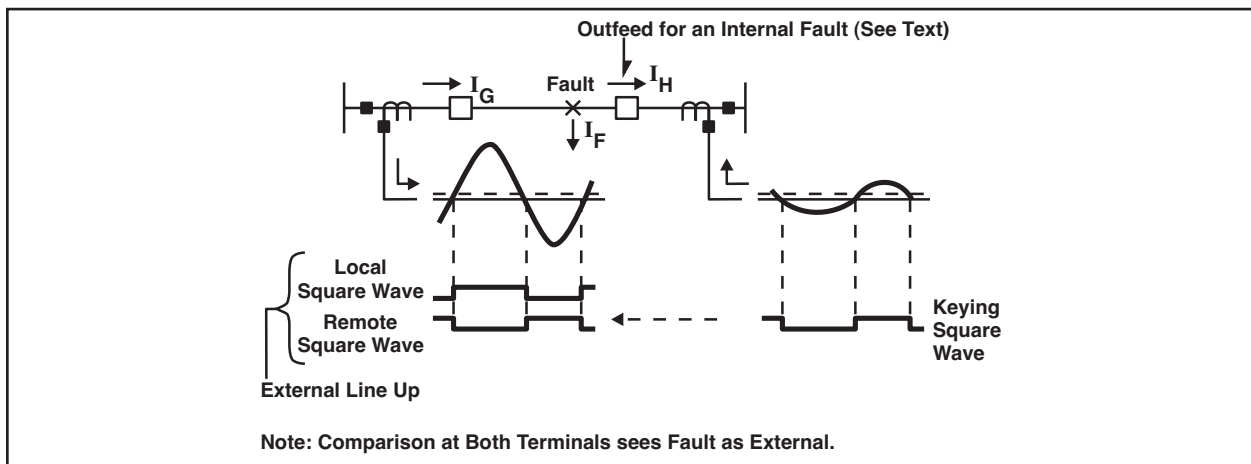

Figure 2-8. Conventional Phase Comparison Response to an Outfeed Condition Block Tripping.
To generate the local and keying square waves, conventional phase comparison systems use thresholds equivalent to (or very near) the zero axis. As a result, an internal fault with outfeed looks like an external fault to those systems (see Figure 2-8). The offset keying technique permits the relay system to trip for internal faults with outfeed current out at one terminal. While the outfeed condition is very unusual, it presents difficult problems to the great majority of pilot relaying systems when it does occur. Outfeed can occur in any of the following cases:
This relationship is illustrated in Figure 2-8, where I_G equals I_F plus I_H . While the two terminal currents may have any angular relationship with one another, most outfeed conditions display a nearly out-of-phase relationship. The out-of-phase condition illustrated is the most difficult case for phase comparison, as well as the most common outfeed condition.
Output trip signals are supervised by an arming input and a number of security checks (see Figure 2-8). Phase arming is performed by a current rate-of-change detector that responds to sudden increases, decreases, or angular shifts in current. It operates on current changes of 0.5 A or more, with an operating time of 2 ms. Ground
Security checks to comparison AND (see Figure 2-8) include (1) low channel signal blocking, (2) lockout for sustained low channel signal, (3) channel noise clamp, and (4) receive guard block. For the phase subsystems, a trip signal occurs if comparison AND has an output for more than 3ms (4ms for the ground subsystem).